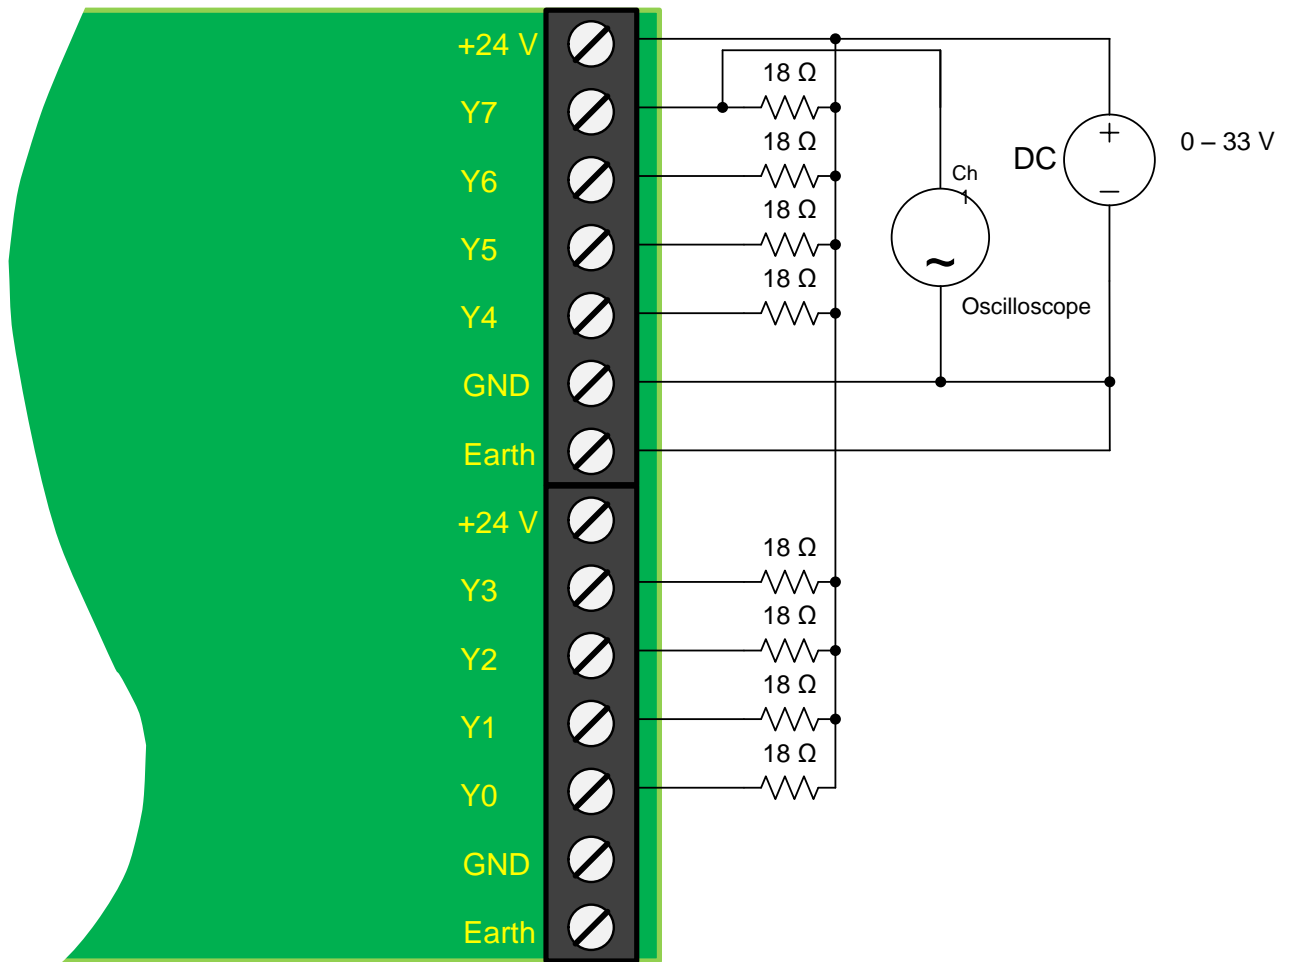

図 3. Measurement Setup for Rise and Fall Times
- Connect loads and power supply according to 図 3.